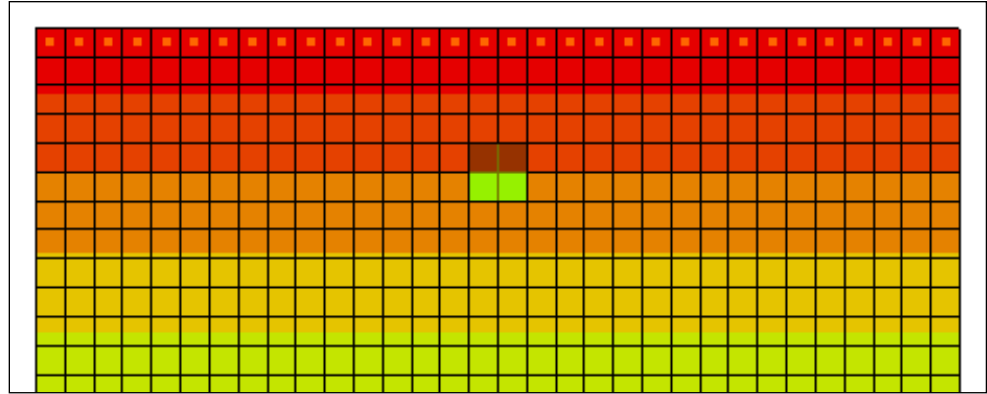

Figure 3 The four cells with initial contaminant concentrations
1. Hold the ctrl key down and select the cells “5,16,1”, “5,17,1”, “6,16,1”, and “6,17,1” (see Figure 3).